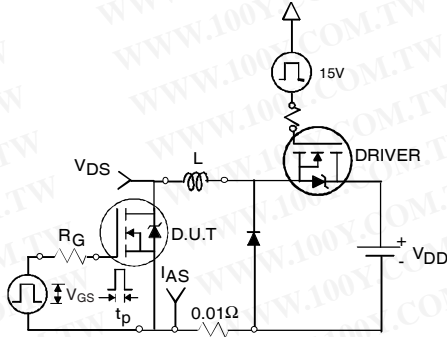

Fig 12a. Unclamped Inductive Test Circuit
- ④ Pulse width ≤ 400μs; duty cycle ≤ 2%.
- ⑤ C_{oss eff.} is a fixed capacitance that gives the same charging time as C_{oss} while V_{DS} is rising from 0 to 80% V_{DSS}.
- ⑥ Calculated continuous current based on maximum allowable junction temperature. Package limitation current is 75A.
- ⑦ Limited by T_{Jmax}, see Fig. 12a, 12b, 15, 16 for typical repetitive avalanche performance.
3. Equation below based on circuit and waveforms shown in Figures 12a, 12b.